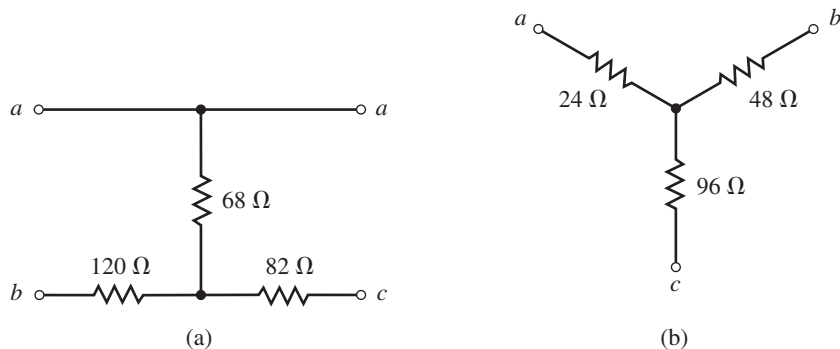

FIGURE 8–95
43. Using Δ -Y or Y- Δ conversion, find the current I for the circuit of Figure 8–96.